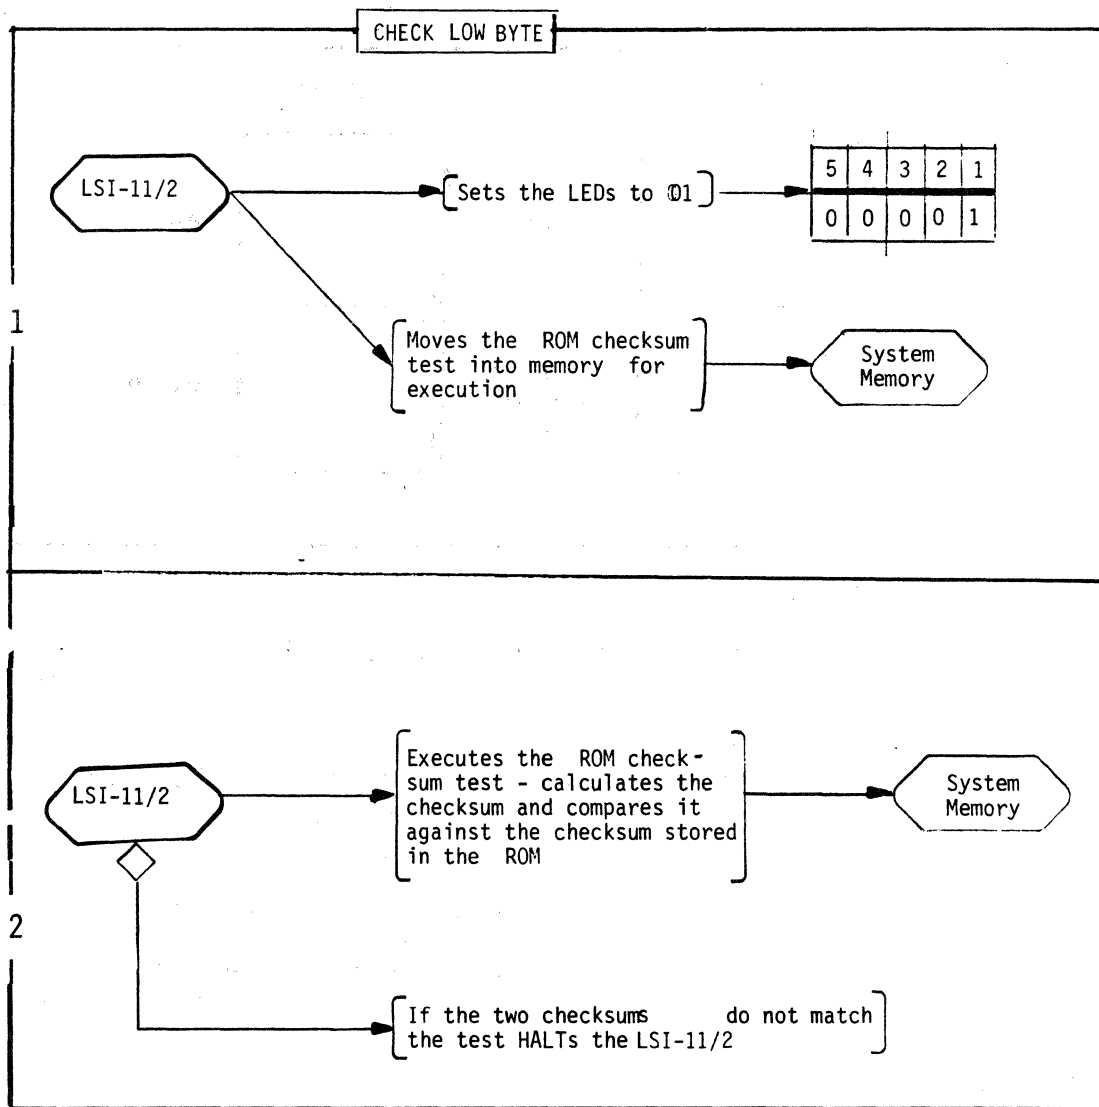

Fig. 3-11. Check low byte.
1. CHECK THE LOW BYTE (Fig. 3-11). The test sets the LEDs to 01 and moves the low-byte checksum test into system memory.